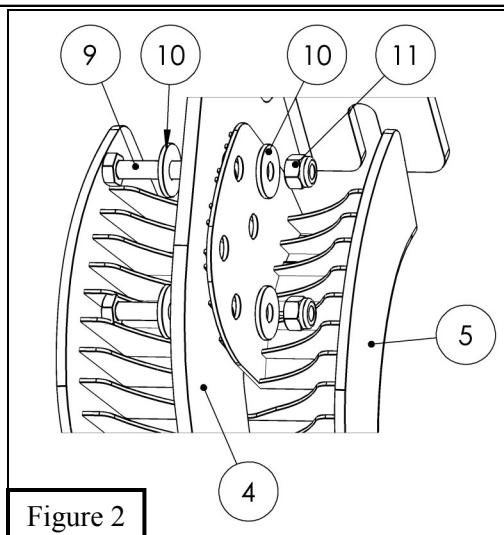

Figure 2
4. Loosely preinstall the Bracket Covers (5) to the Mounting Brackets using the included M6 Hardware. See **Figure 2**.